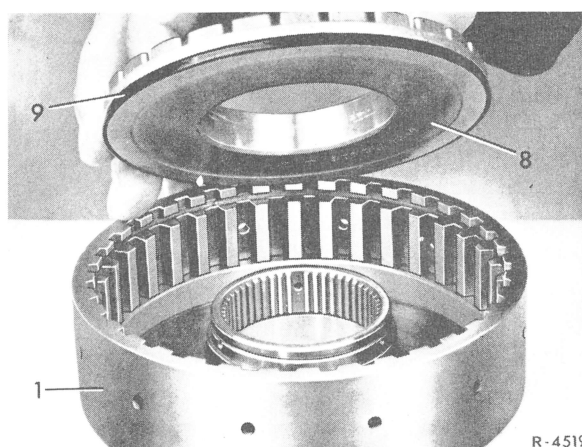

Fig. 5
5 Hold piston (8) with two pointed pliers and pull out of supporting flange (1) until it can be held manually (Fig. 5).